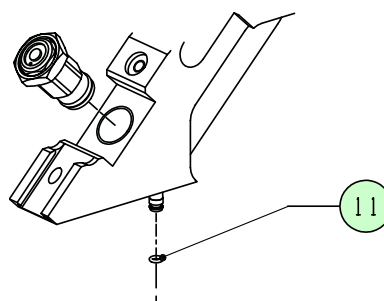

FIGURE 6.3.4
- Replace as shown in figure 6.3.4